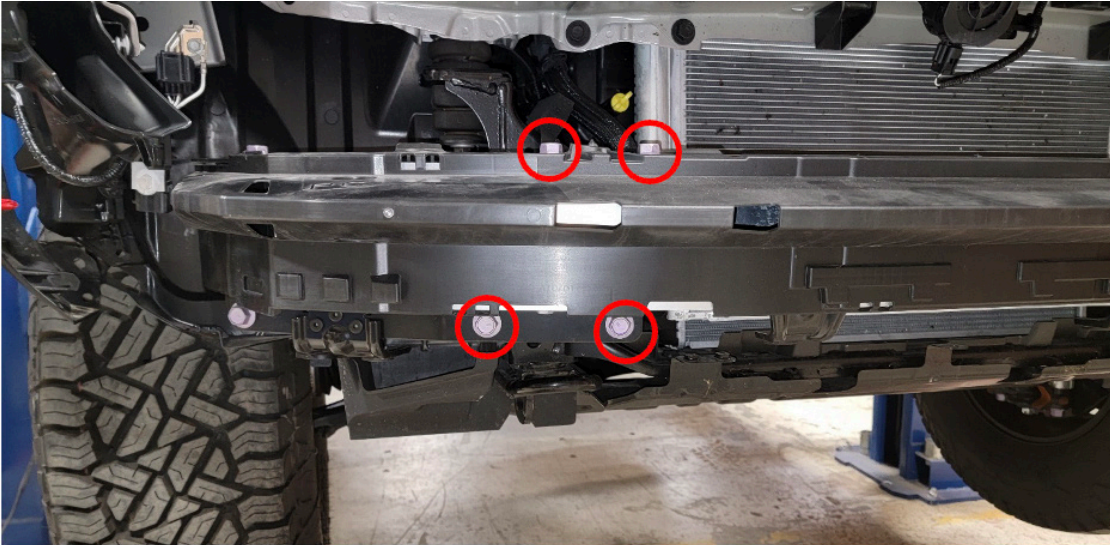

Figure 12.
11. Remove the crash bar by using a 17mm socket to remove the 4x bolts on each frame rail. Figure 12.